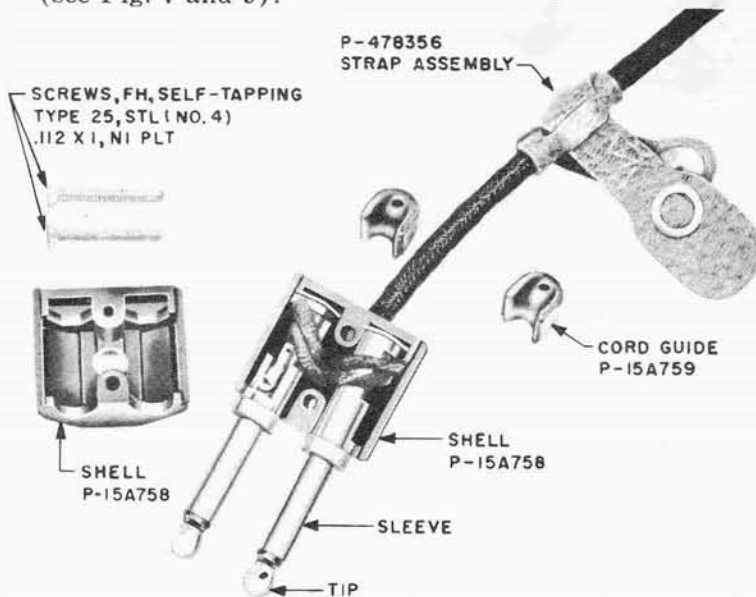

Fig. 7 - 396A Plug - Internal View
3.02 The new 52H and 52J headtelsets are equipped with an L4BL cord and 396A plug (see Fig. 7 and 8). The braided covering of the cord extends into the body of the plug, eliminating need for No. 77 cord tips (see Fig. 3). The operator must grasp the plug to remove it from the jack.
9.01 To detect poor contacts between the tips of the 396A or 289B plug and the springs of the jack, insert the plug in the jack, apply talking battery, and tap the plug while listening for clicks (see Fig. 7 and 9).
9.02 If a cutout is caused by wear on one side of the tips, rotate each shaft of the plug a quarter turn in the shell so as to present a new surface to the jack springs. If trouble condition is still present, replace the plug. (See Fig. 7 and 10.)